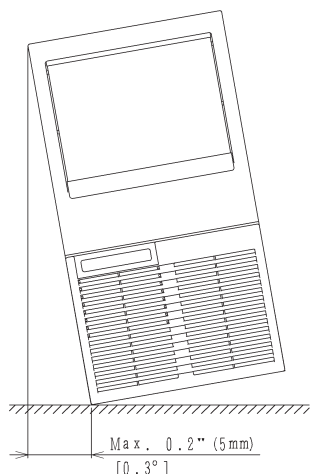

Fig. 2
- 3) Level the appliance in both the left-to-right and the front-to-rear directions (when installed with or without legs). See Fig. 2.